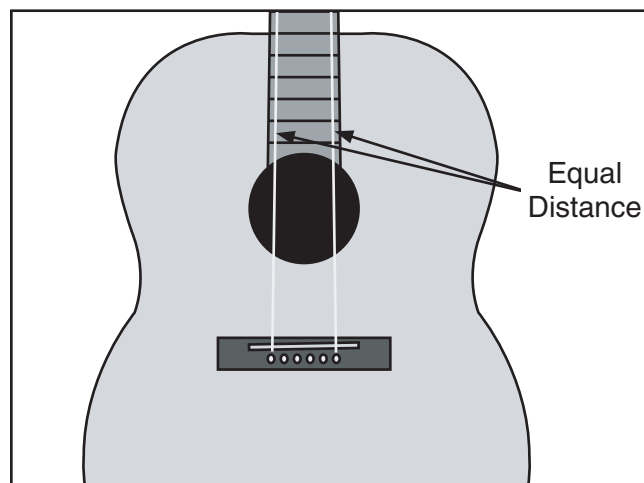

Figure 13. Positioning the bridge across the width of the guitar.
5. Adjust the bridge side to side so there is an equal amount of space between the fingerboard edges and the threads (see **Figure 13**).